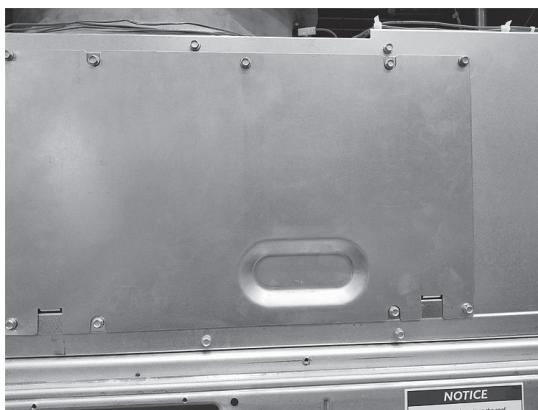

Fig. 21 — Heater Cover
4. Fasten heater cover to heater module with 2 screws provided with heater. Flanges of cover must face out. (See Fig. 21.)